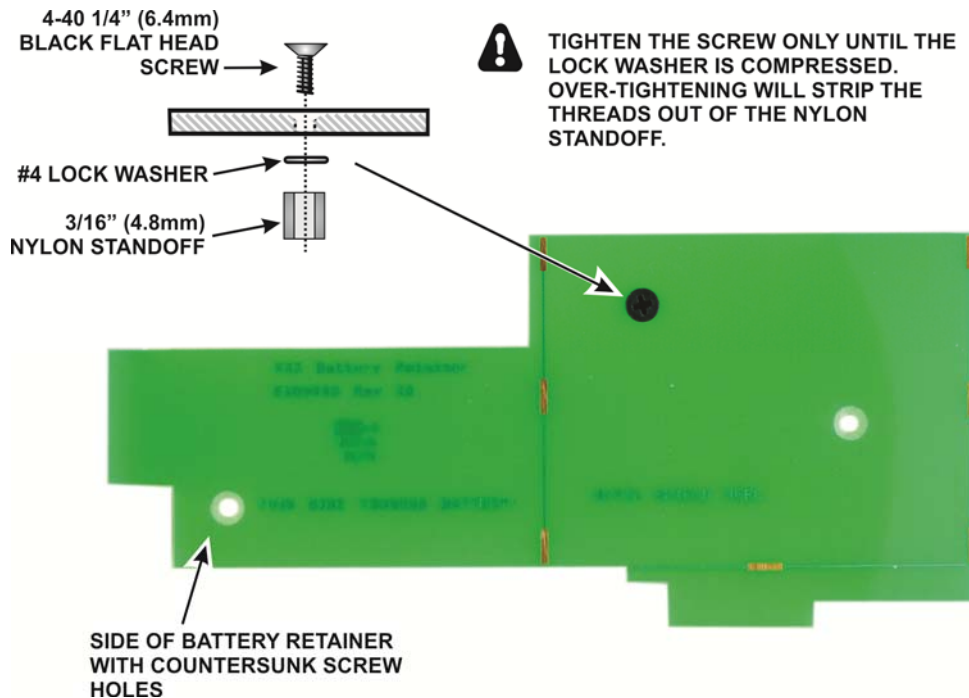
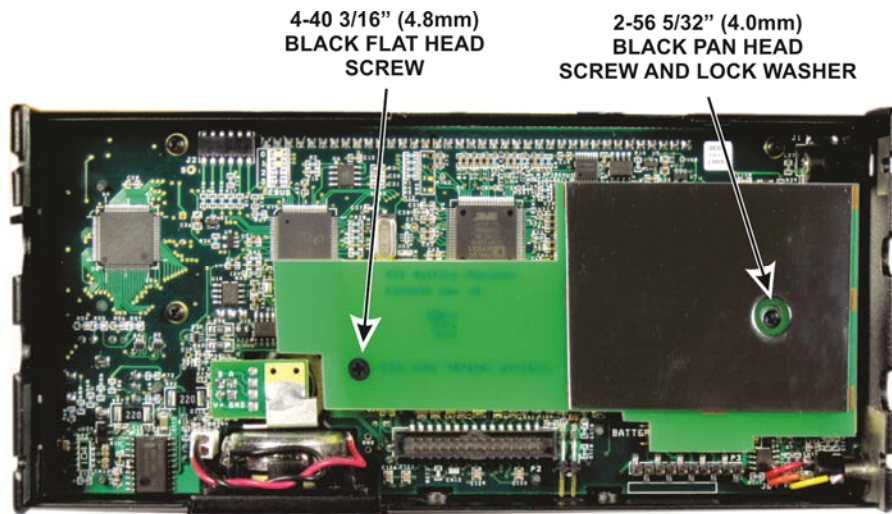

Figure 22. Mounting Nylon Standoff on the Battery Retainer.
Figure 24. Installing the Battery Retainer.
□ Mount the nylon standoff on the battery retainer as shown in Figure 22. Be sure you place it in the correct location with the head on the lettered side of the retainer. The hole for the screw is countersunk on that side as well.
☐ Mount the battery retainer on the two standoffs on the CP board as shown in Figure 24. Note that the nylon standoff you installed on the retainer earlier (Figure 22) simply rests against the CP board.